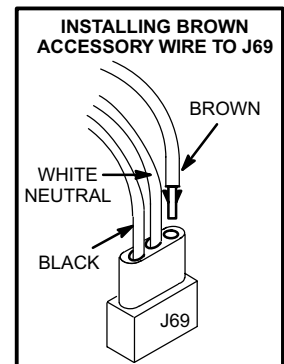

FIGURE 24
NOTE - Install a 1/8 inch NPT plugged tap in the field piping upstream of the gas supply connection to the unit. The tap must be accessible for test gauge connection. See figure 24.
- 4 - An optional 120 volt accessory wire is provided with G32 units. Install the brown accessory wire into J69 jack plug by inserting the pin of the brown wire into the open socket of the jack. See figure 24. Any accessory rated up to 1 amp can be connected to this wire. Connect the neutral leg of the accessory to the neutral white wire in the make-up box. The accessory terminal is energized whenever the blower is in operation.